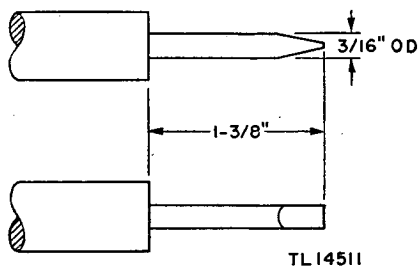

Figure 71. Modified soldering iron tip.
b. CONSTRUCTION OF SPECIAL MAINTENANCE TOOLS. The mechanical compactness of Radio Receiver and Transmitter BC-1000-A makes it difficult to solder and unsolder certain parts. To perform soldering operations with ease at close quarters, reshape a standard size soldering iron tip to chisel point as shown in figure 71.